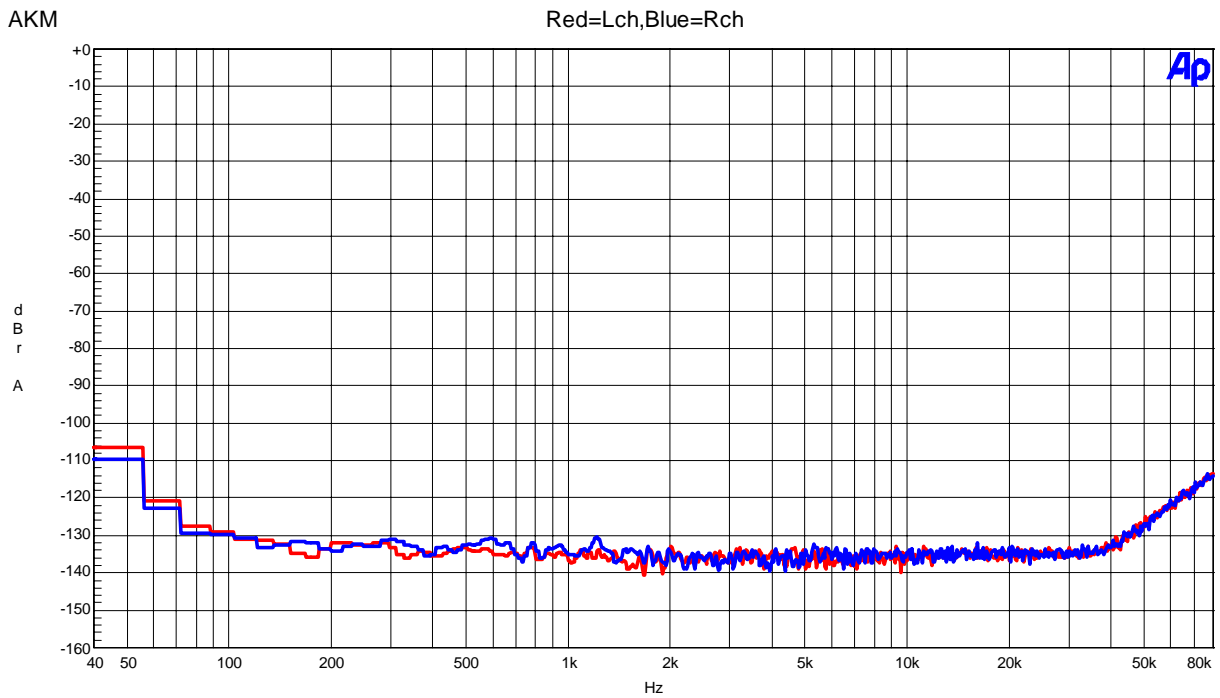

Figure 46. FFT(noise floor)
- Figure 46. THD+N vs fin (Input Level=0dBFS)